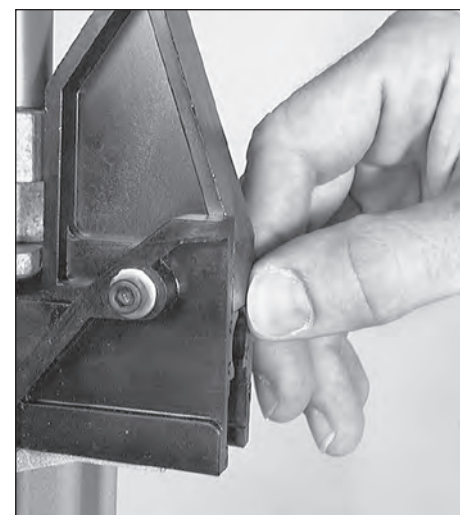

FIG 186
2. **FIG 186** Insure that the back side of the cam is flush with the cam slide.